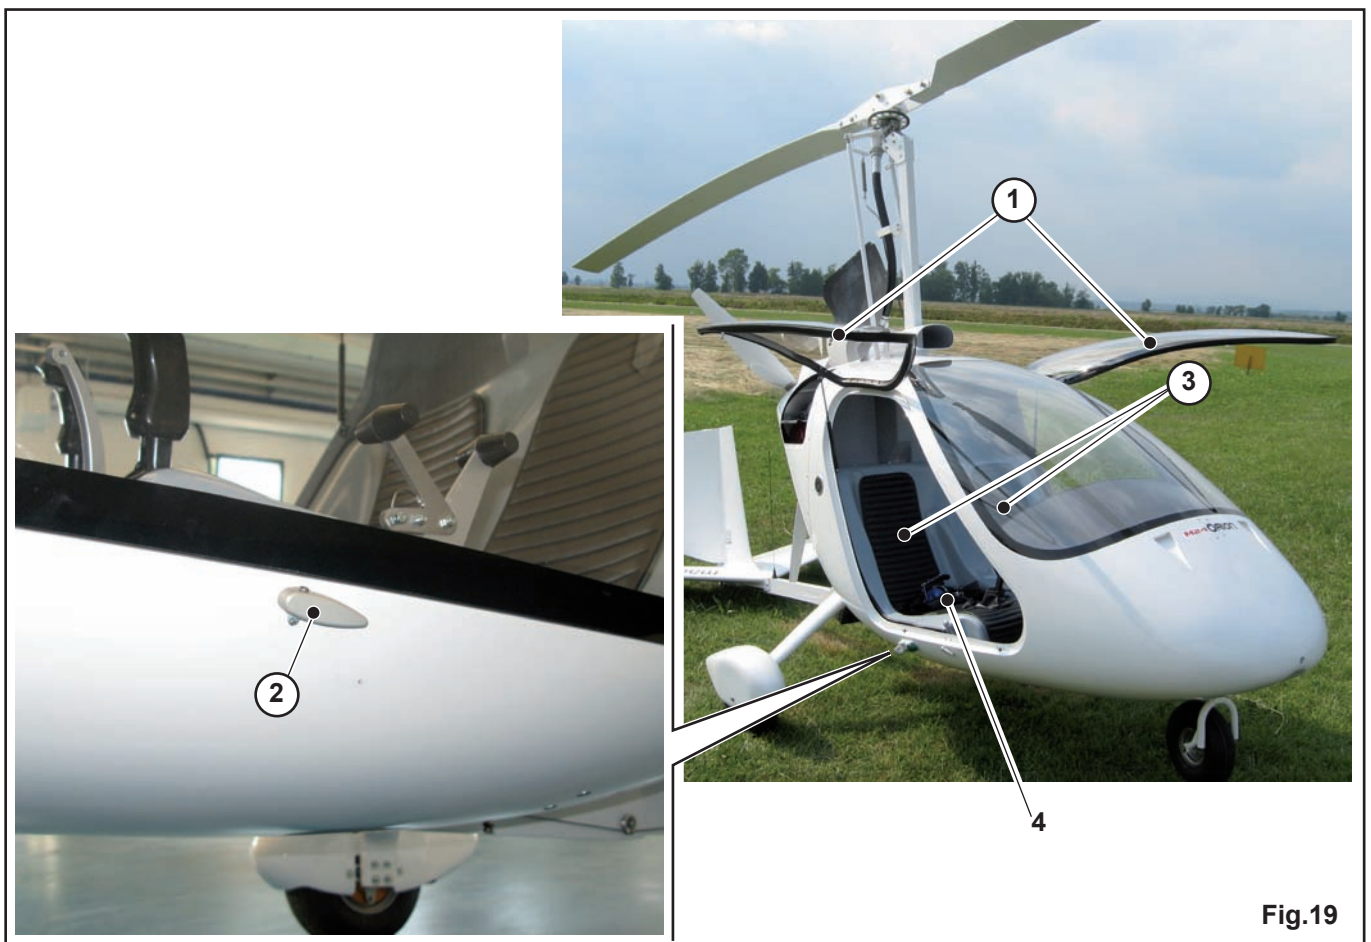

Fig.19
4.7.2 ENGINE STARTING (Fig. 19/20)